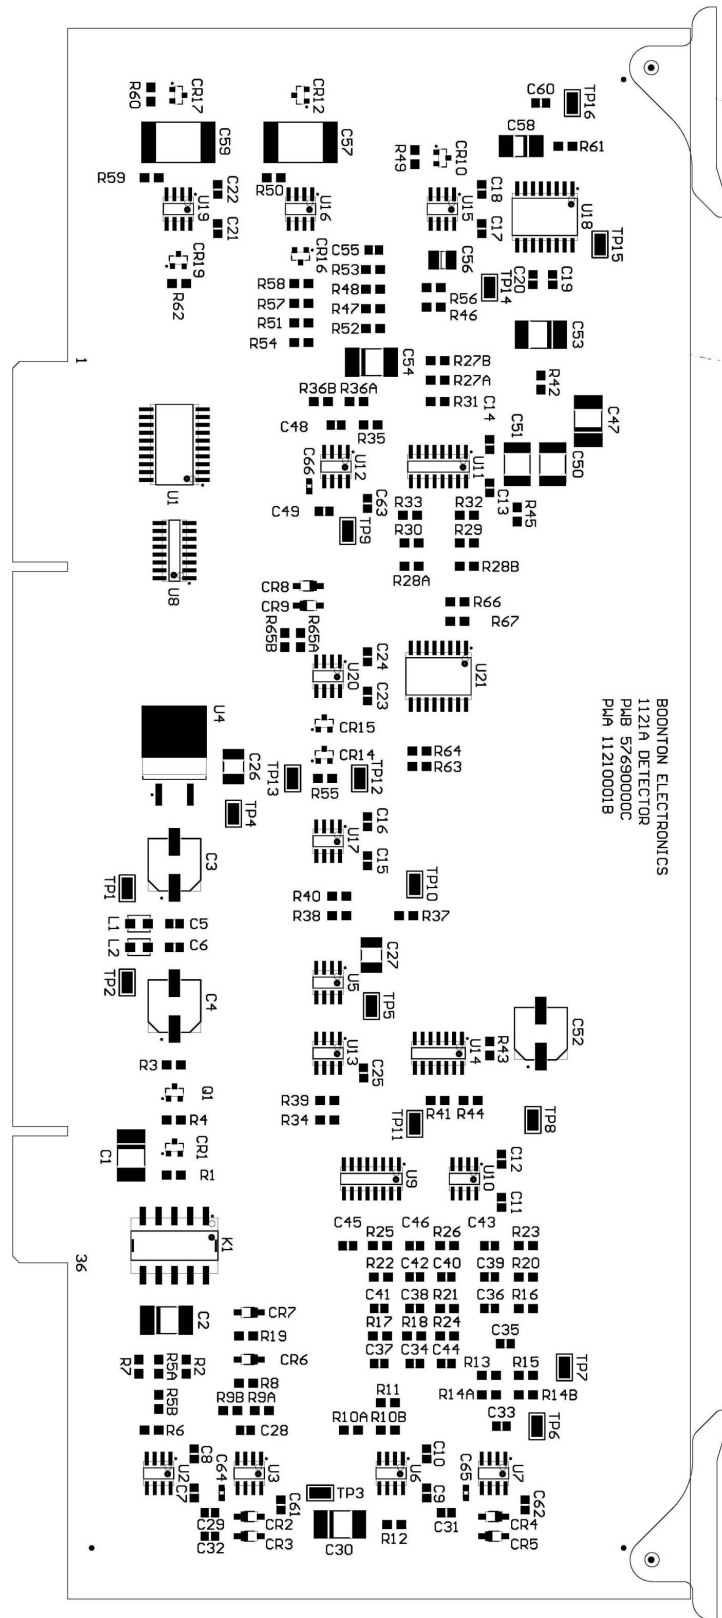

Figure 6-6. PWA '1121A' Detector (A3)
**11210001A PWA DETECTOR 1121A (A3) (Figure 6-6)